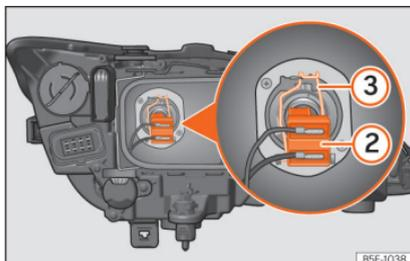

Fig. 107 Dipped beam headlights.
- Remove connector »» Fig. 107 ② from the bulb.
- Unclip the retainer spring »» Fig. 107 ③ pressing inwards to the right.